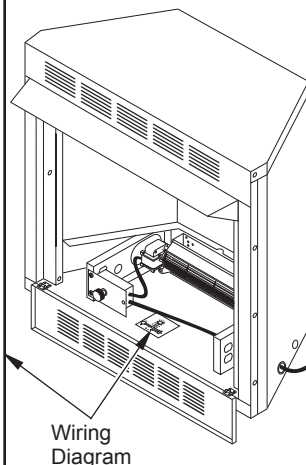

Figure 7 - Location of Wiring Diagram Decal 3" from Blower
16. Peel off the backing paper and stick the supplied wiring diagram decal on the firebox bottom approximately 12" in front of blower (see Figure 7).